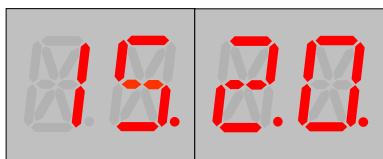

Figure 7e: New stored Bit value.
5. UP and DOWN will move the Bit value between 0 and 1. Press SELECT to store the displayed value. See **Figure 7e**.